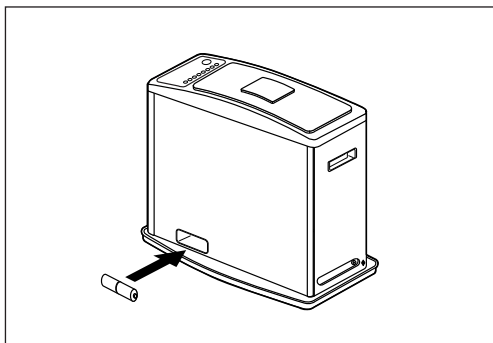
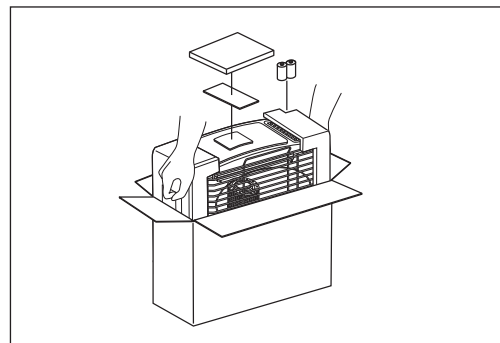

Fig. 12
Fig. 13
Carefully following the instructions for storage given below will insure that your heater will operate efficiently and safely next season (Fig. 12/Fig. 13).
- Remove the batteries (Fig.12) from the battery case before storing the heater to prevent leakage and corrosion. Remove the 5 cabinet screws and lift off the cabinet and grille assembly. Remove the burner. Remove the wick adjuster from the fuel reservoir. Thoroughly dry the Inside of the fuel tank. Using a screwdriver and/or a brush, remove any carbon, tar or soot that might have accumulated on the wick adjuster, wick guide or burner.